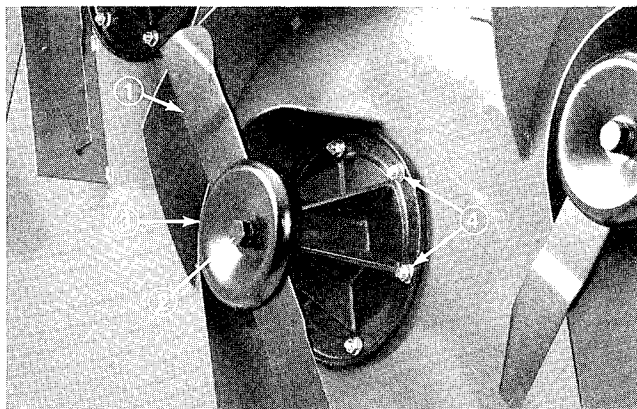

Figure 60
2. Using a rag or thickly padded glove, grasp end of blade. Remove blade bolt, lockwasher, anti-scalp cup and blade from spindle assembly (Fig. 60).